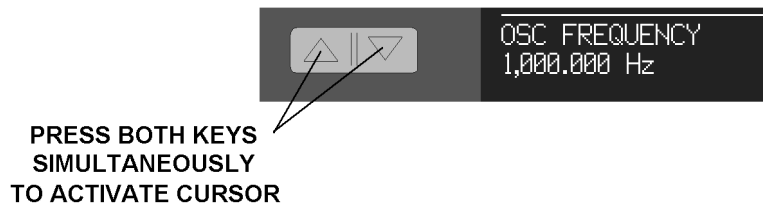

Figure 4-3, Active Cursor Activation
- Step 1 Simultaneously press both sides of the   key adjacent to the control. In the example shown in figure 4-3 the internal oscillator frequency will be adjusted, since this is the control displayed adjacent to the keys. A cursor appears under one of the displayed digits (see also figure 4-4).